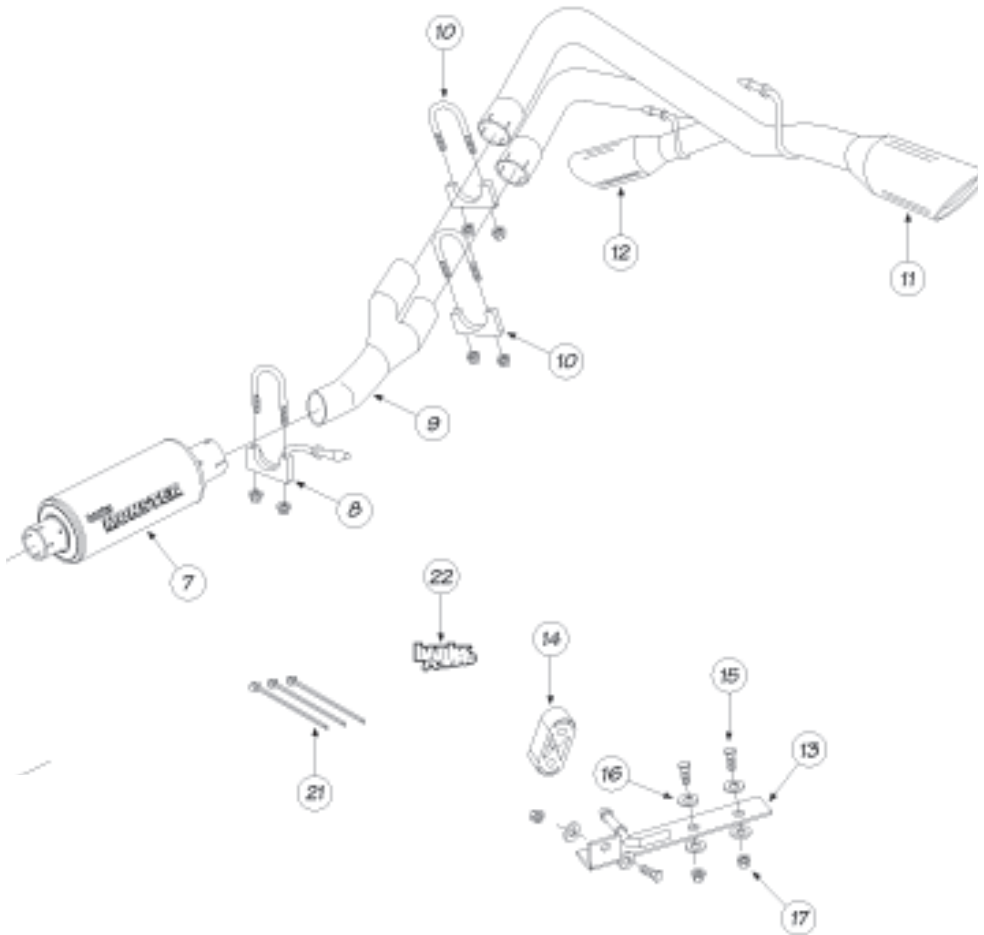

Figure 2
12. If the system is being installed on an extended-cab long-bed or an extended-cab short-bed vehicle, the Banks flanged intermediate pipe (53717) must be trimmed prior to installation in the vehicle. For extended-cab long-bed models, trim 9-1/2" from the outlet of the intermediate pipe such that 10" including the flange is remaining. Once the cut has been performed, debur the cut end with a file or sandpaper. (See **Figure 2**).